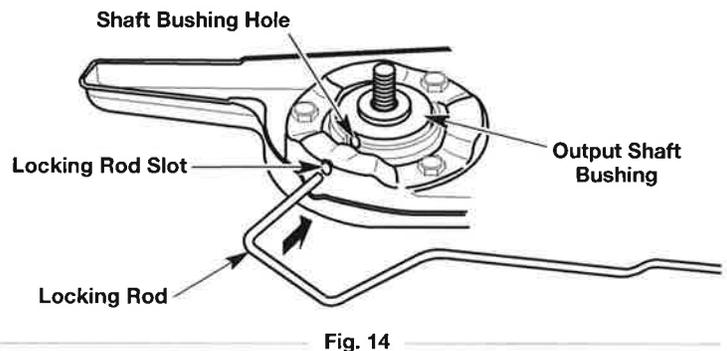
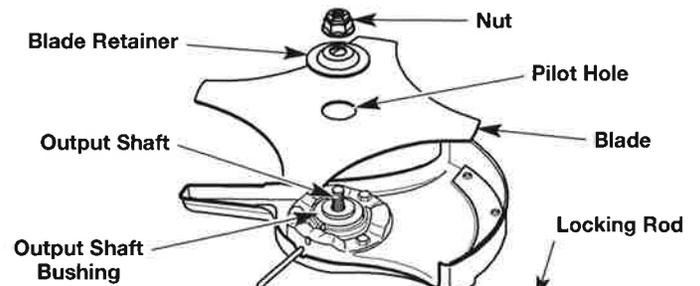

Fig. 14
Fig. 16
1. Rotate the blade (Fig. 16) until the shaft bushing hole aligns with the locking rod slot (Fig. 14).
2. Insert the locking rod through the locking rod slot and into the shaft bushing hole (Fig. 14).
5. Remove the locking rod. Remove the lock nut, blade retainer and blade (Fig. 16). Keep the lock nut and blade retainer for installing the new blade.
1. Rotate the output shaft bushing until the shaft bushing hole aligns with the locking rod slot (Fig. 14).
4. While holding the locking rod in place, lower the blade onto the output shaft bushing (Fig. 16).
**WARNING:** To avoid serious personal injury, make sure that the pilot hole on the blade is sitting flat against the output shaft bushing (Fig. 16). The unit will vibrate and the blade may fly off if the blade is not centered.
5. Place the blade retainer onto the output shaft with the flat surface against the blade (Fig. 16).
6. Screw the nut onto the output shaft (Fig. 16).